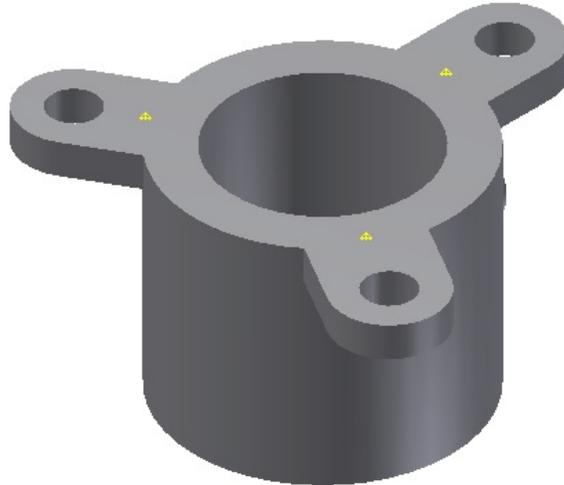

Figure 19-67 Total points specified for gate location
4. Similarly, specify two more points on the part, as shown in Figure 19-67 and then choose the **Done** button from the dialog box.